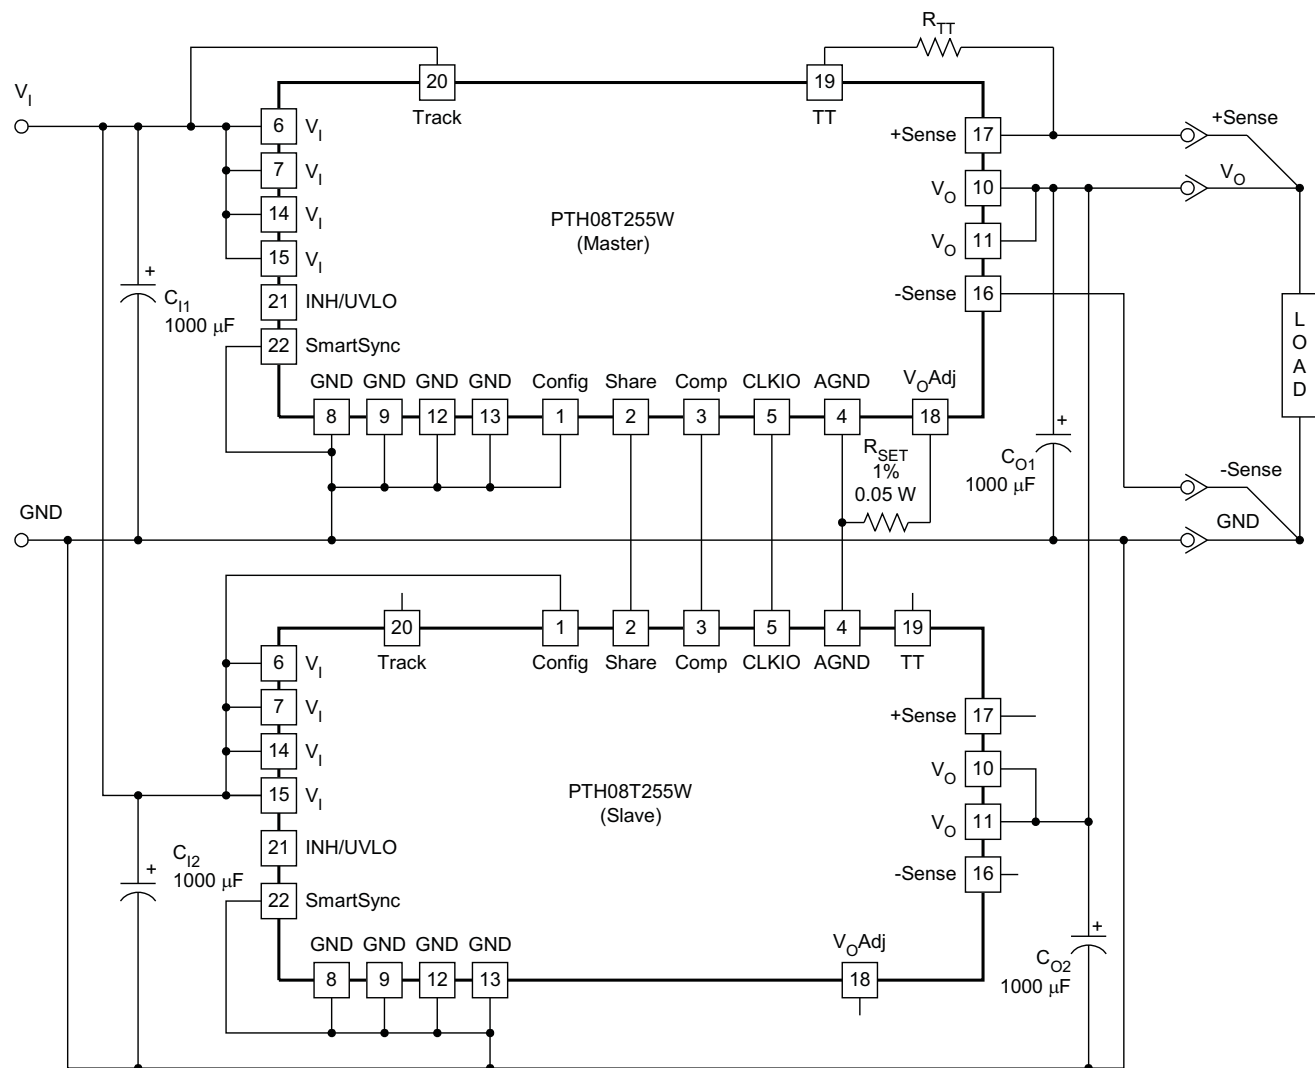
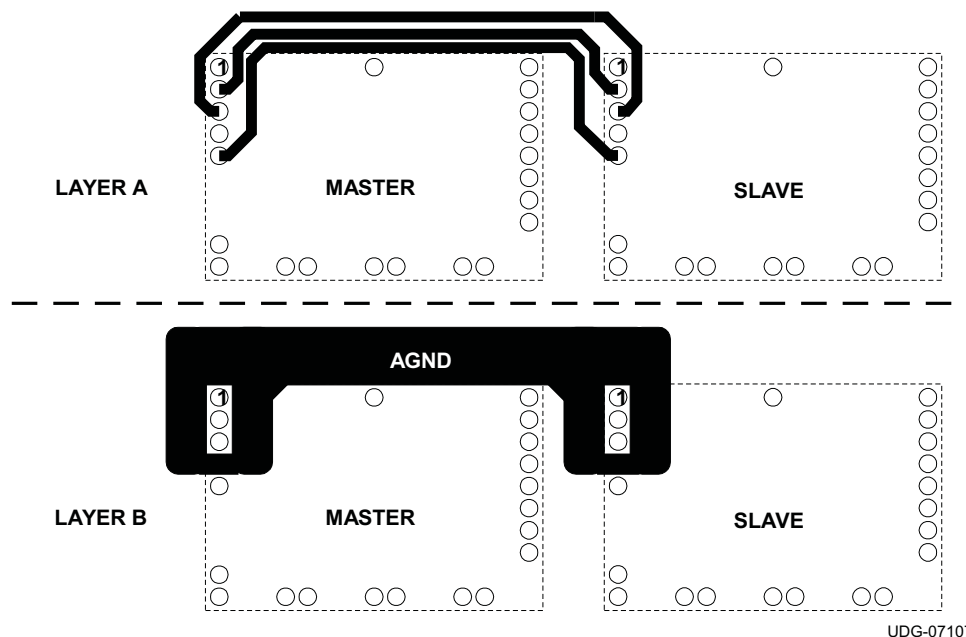

Figure 19. Typical Current Sharing Diagram
Figure 22. Recommended Layout of Inter-Connection Pins Between Two Current Sharing Modules
The PTH08T255W module is capable of being configured in parallel with another PTH08T255W module to share load current. To parallel the two modules, it is necessary to configure one module as the Master and one module as the Slave. To configure a module as the Master, connect the CONFIG pin (pin 1) to GND. The CONFIG pin of the Slave must be connected to V_L . In order to share current, pins 2 thru 5 of both the Master and Slave must be connected between the two modules. See Figure 22 for the recommended layout of pins 2 thru 5. The module that is configured as the MASTER is used to control all of the functions of the two modules including Inhibit ON/OFF control, AutoTrack sequencing, TurboTrans, SmartSync, +/- Remote Sense, and Output Voltage Adjust. See the current sharing diagram in Figure 19 for connections. The MASTER and the SLAVE must be powered from the same input voltage supply.
See Figure 19 and Table 7 for a diagram and connection description of each pin when two PTH08T255W modules are being used in a MASTER/SLAVE configuration.
(1) For more details on the pin descriptions, please refer to the 'Terminal Functions' described in Table 1
(2) See Layer A in Figure 22 for recommended layout
(3) See Layer B in Figure 22 for recommended layout
In current sharing applications the V_I pins of both modules must be connected to the same input bus. The V_O pins of both modules are connected together to power the load. The GND pins of both modules are connected via the GND plane. Four other inter-connection pins are connected between the modules. Figure 22 shows the required layout of the inter-connection pins for two modules configured to share current. Notice that the Share (pin 2) connection is routed between the Comp (pin 3) and CLKIO (pin 5) connections. AGND (pin 4) should be connected as a thicker trace on an adjacent layer, running parallel to pins 2, 3 and 5. AGND must not be connected to the GND plane.